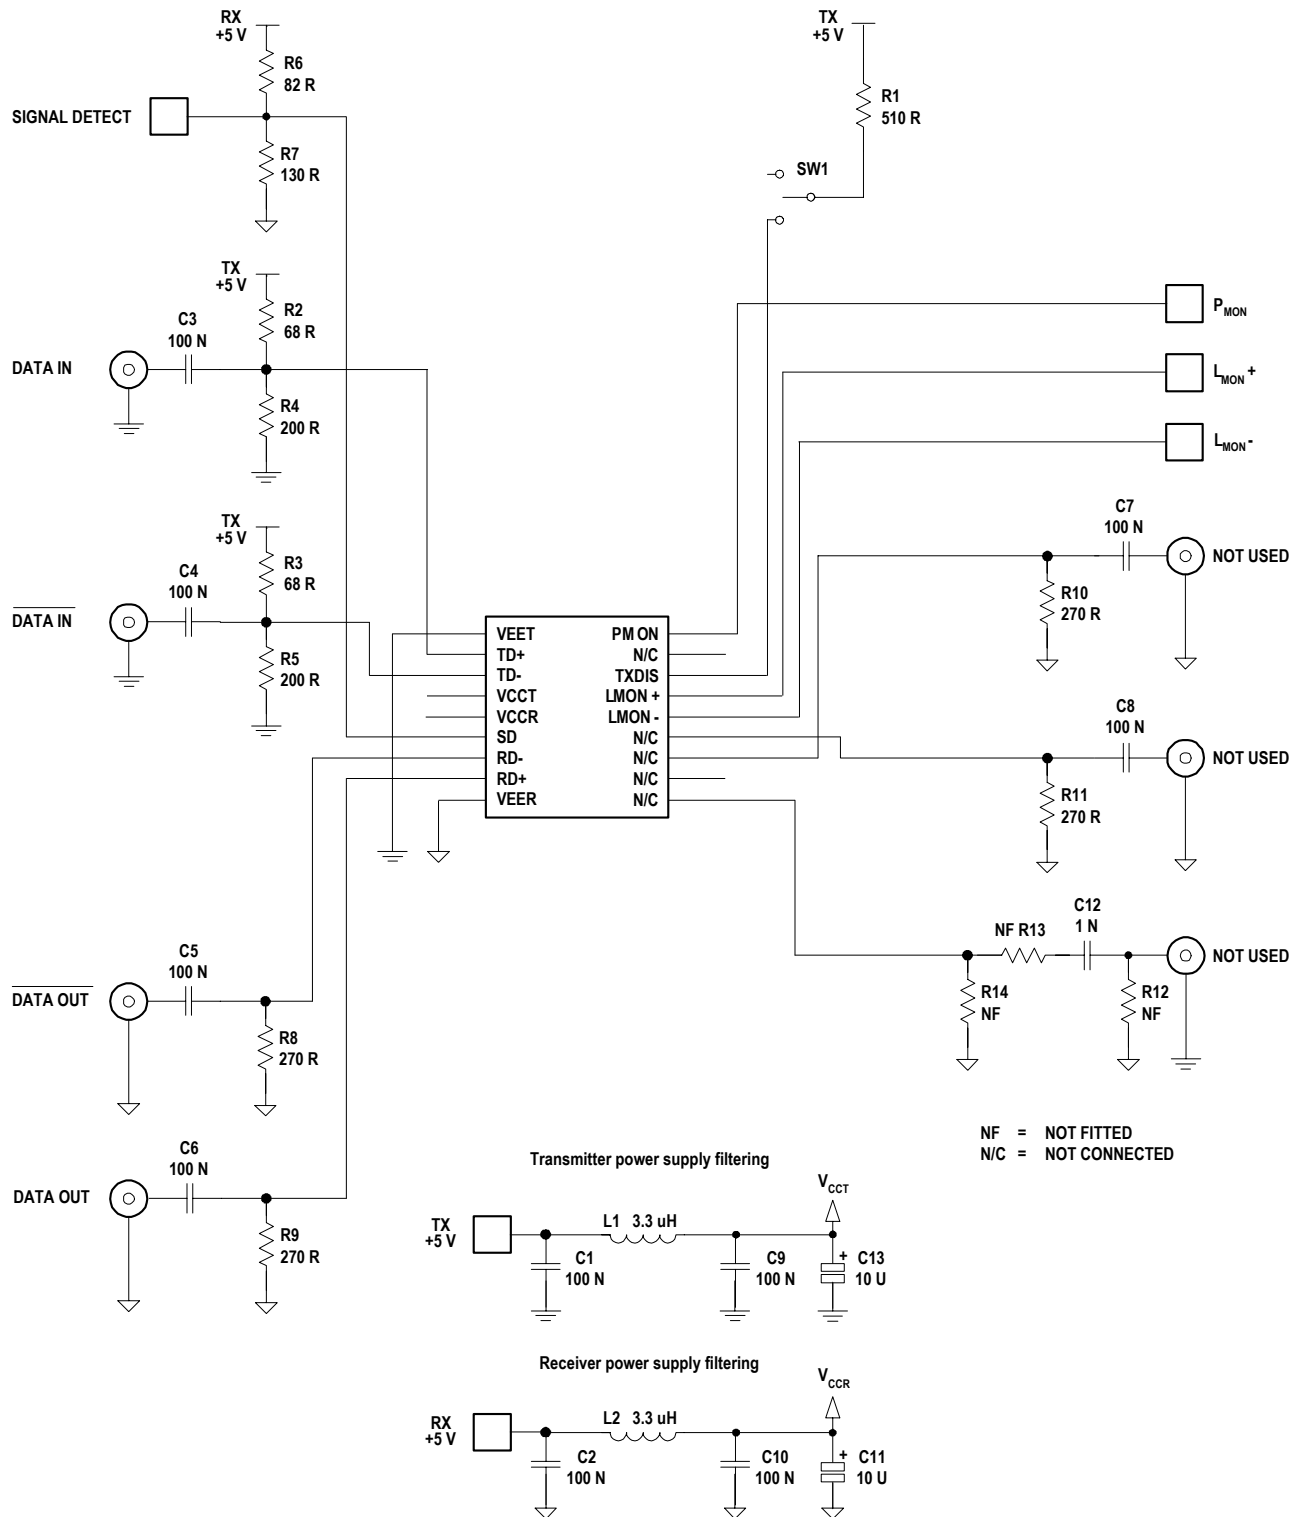

Figure 11. HFCT-5000 Evaluation Board Schematic
**Table 2. Pinout Table (Refer to Figure 11)**
Figure 11 shows the HFCT-5000 Evaluation Board Schematic layout. Table 2 gives the modules pin out, functionality and connection information.